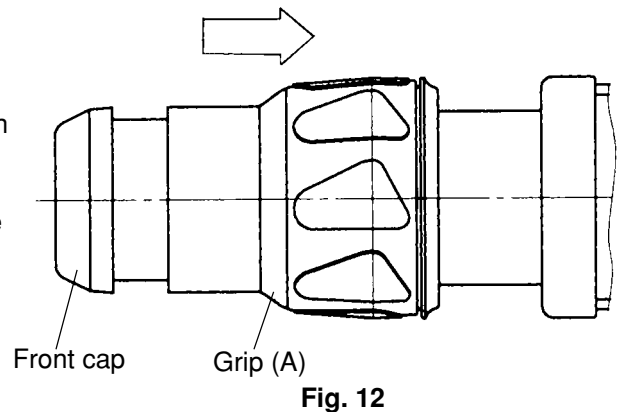

Fig. 12
- Retainer disassembly (See Figs. 12 and 13.)
Pull Grip (A) **[2]** fully in the arrow direction as shown in Fig. 12 and remove the Front Cap **[1]** (since the Front Cap **[1]** is made of rubber and engaged firmly with the Retainer Sleeve **[16]**, pull it strongly to remove). This allows Grip (A) **[2]** to be separated from the Retainer Sleeve **[16]**.